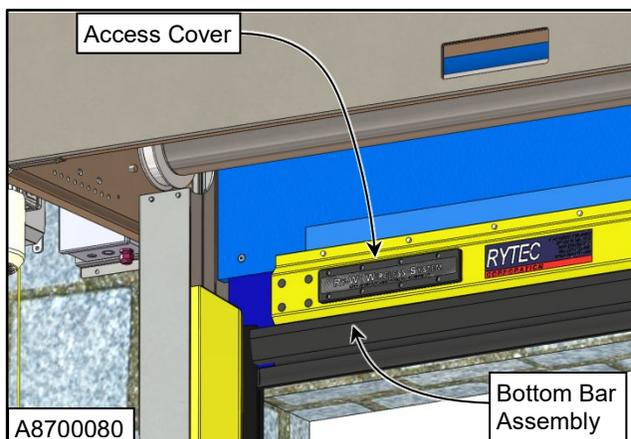

Figure 34
1. The reversing edge switch is located inside the bottom bar assembly, on the end same as the drive motor. To inspect and/or adjust the switch, remove the access cover from the face of the bottom bar assembly. (See Figure 34)